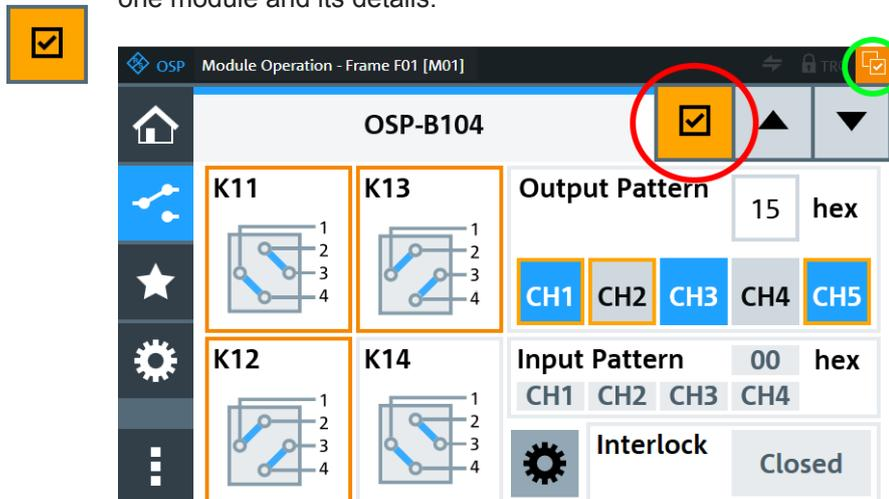

Figure 5-17: Relay and channel selection dialog
The "**Toggle select mode**" button switches the "Selection Mode" on or off. This button (marked by the red circle in Figure 5-17) is available only in a view that shows at least one module and its details.
If at least one relay or channel is selected, even if it is not part of the currently visible module dialog, the "Items Selected" indicator icon is highlighted in orange. This icon is marked by a green circle in the far right top corner of Figure 5-17. The state of the indicator icon (highlighted or not) is independent of the "Toggle select mode" button being active or deactivated.
- The Selection Mode is disabled (see Figure 5-17)
Otherwise, with a dialog as in **Figure 5-17**, for example, the context menu offers the "Module Information" button for detailed information for this individual module:
Only available, if at least one relay or channel is selected, as in Figure 5-17, for example.
- If this button was enabled when you clicked "Select All", it remains enabled, as in Figure 5-17